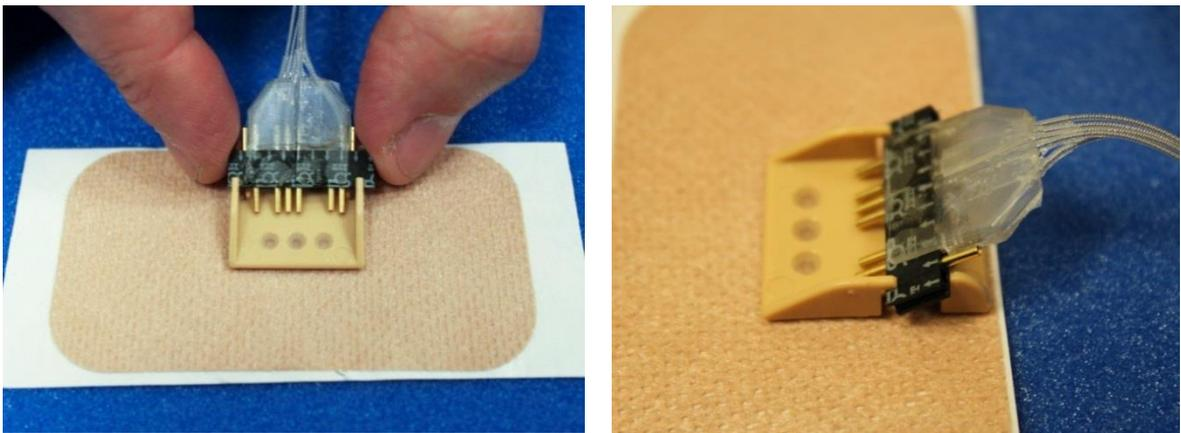

Figure 15.
2. Using two fingers, grasp the electrode connector and tilt it down as shown in Figure 15.